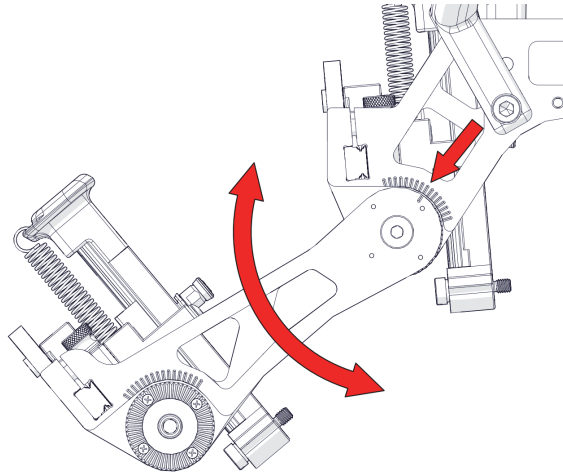

Figure 1-55 Position the arm
2. Position the arm so the SLA is perpendicular to the pipe surface (see Figure 1-55 on page 64). If you have two arms configured on the central probe module section, use the index markers to ensure that both sides are identical.